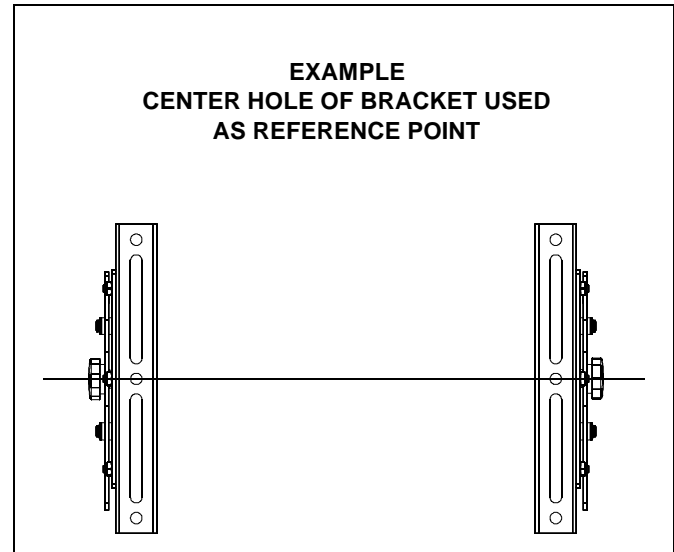
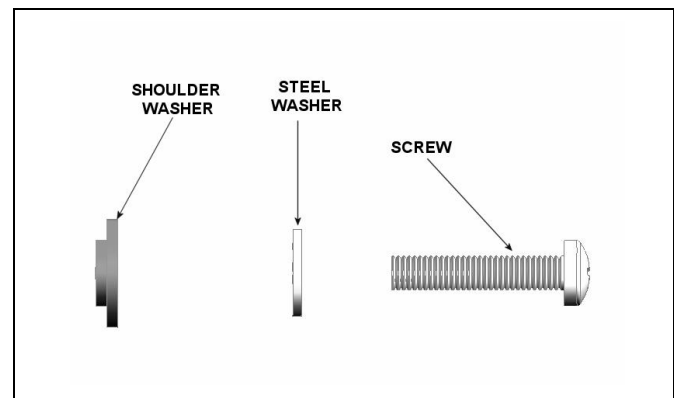
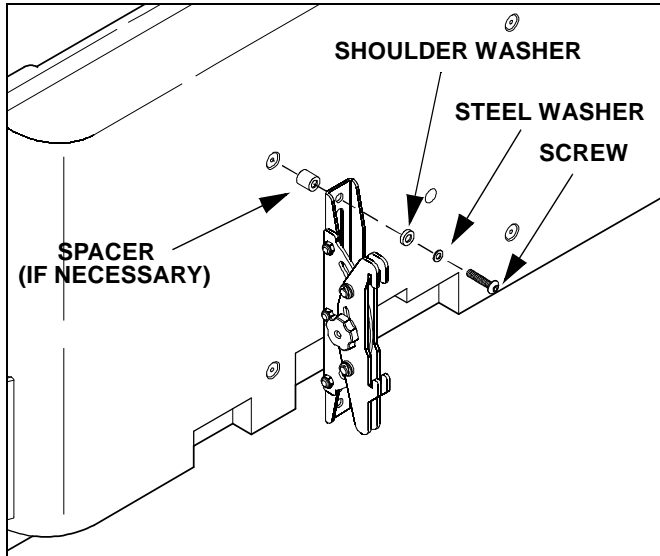
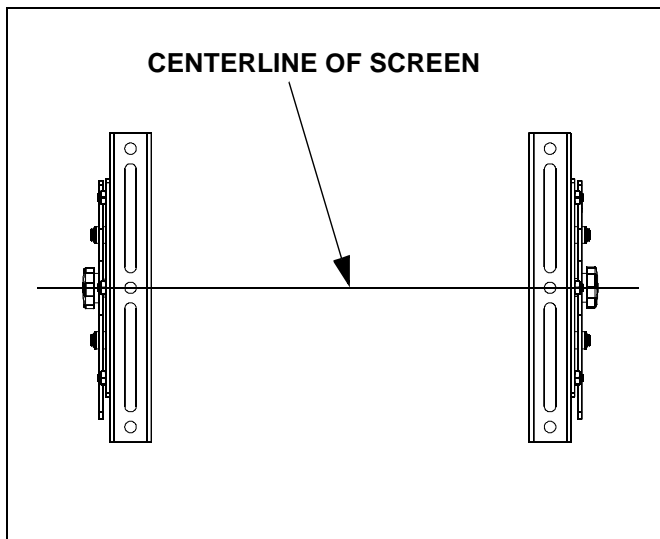

Figure 2
Figure 3
Figure 4
Figure 5
2. Position the interface bracket assemblies (20 and 30) with the adjustment knobs facing towards the outside of the display. (See Figure 4)
3. Using the center hole on the interface bracket as a reference point, align the bracket with the center line of the display. (See Figure 2) and (See Figure 5)
4. Secure the left and right factory assembled interface bracket assemblies (20 and 30) to the display. Select the mounting hardware that fits your application. (See Figure 3) and (See Figure 4)
- Use M6 screws (70 or 80) or M8 screws (40, 50, or 60), steel washers (160), and shoulder washers (200).
- Or, use M4 screws (120, 130, or 140) or M5 screws (90, 100, or 110) steel washers (150), and shoulder washers (190).
5. Find the center line of the display once again. (See Figure 5)
6. If necessary, remove the attaching hardware and move the tilt brackets as close to the center line of the display as possible. Re-install the tilt brackets onto the interface brackets. (See Figure 5)